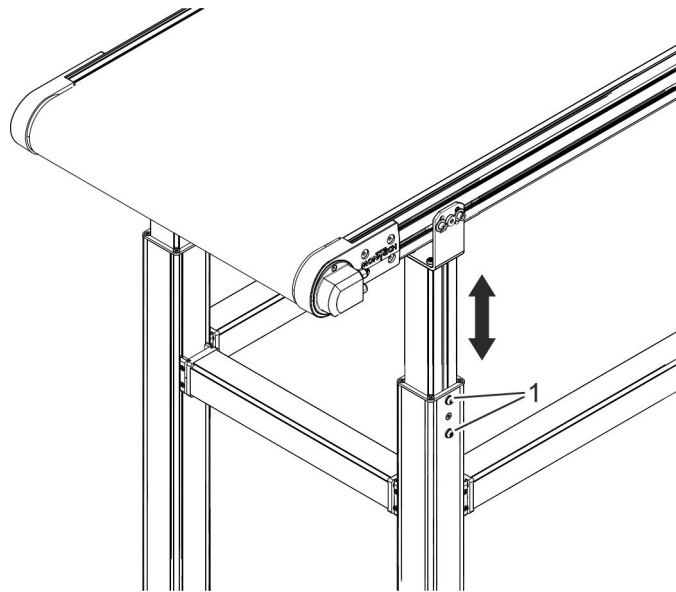

Fig. 17: Adjusting the floor stand
- 3.** ▶ Slightly loosen the fillister head screws (Fig. 17/1).
- 5.** ▶ Tighten the fillister head screws (Fig. 17/1) again.